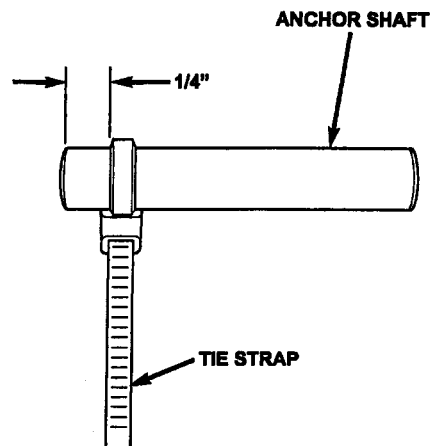

Figure 4
B. If the anchor shaft has come out of the hole and is visible in the drain hole: Use a magnet to extract it. Secure a tie wrap (P/N 04641780) to the anchor shaft about 1/4" from one end as shown in Figure 4.
C. If you cannot see the anchor shaft: Obtain a new anchor shaft (P/N 04431999) and secure a tie wrap (P/N 04641780) to the anchor shaft about 1/4" from one end as shown in Figure 4.